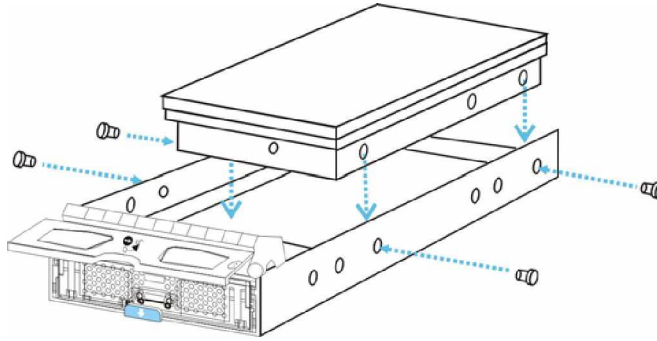

Figure 2-4: Installing a SATA Hard Drive
- Step 1. **Place the SATA hard drive into the drive tray** (as shown in **Figure 2-4**) making sure that the hard drive is oriented in such a way that the drive’s SATA connector is facing the back of the drive tray.
- Step 2. **Adjust the drive's location** until the mounting holes in the drive canister are aligned with those on the hard drive. Secure the drive with four supplied 6/32 flathead screws. (See **Figure 2-4**)